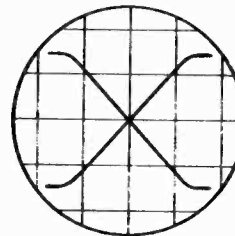

FIG 1
- 5.—Turn variable condenser fully open, and band switch to right (FM).
- 8.—Adjust detector secondary slug No. 6 to center the cross over point of the pattern. Pattern should look like figure 1, with the same amount of curve on both ends, and the cross-over point in the center.